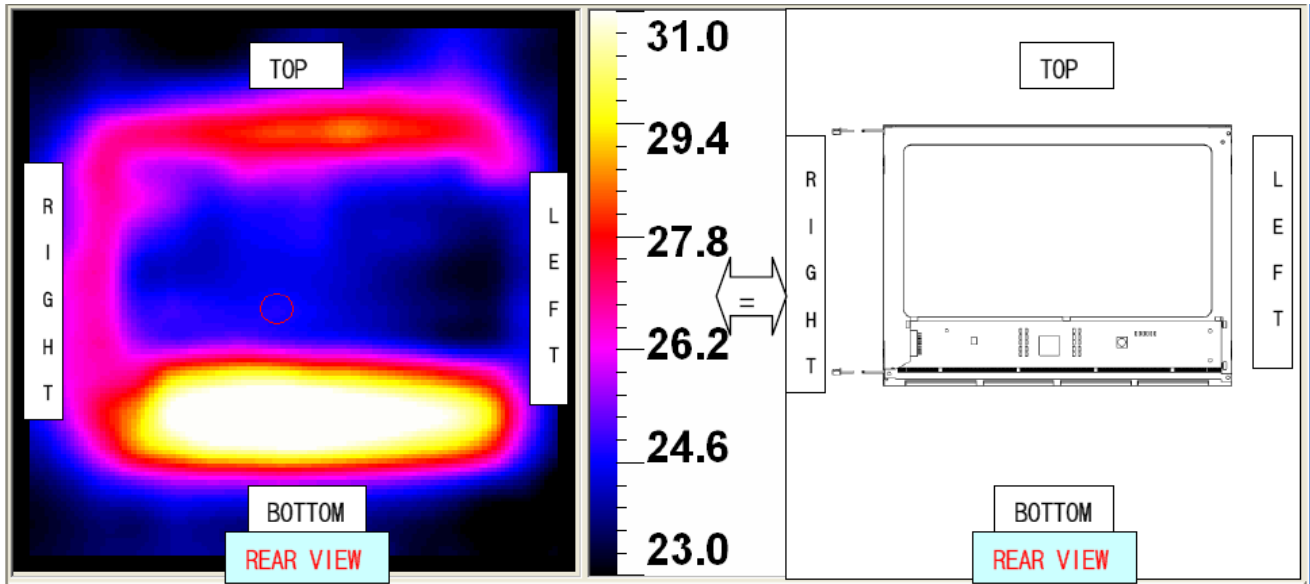

Figure 1. Thermal Map Showing the Heat Imaging of the LVM104XSB-02B-L01 (REAR VIEW)
(5) When fixed patterns are displayed for a long time, remnant image is likely to occur.
(6) The thermal map showing the heat imaging of the module (LVM104XSB-02B-L01) is shown in figure 1. Please reference the thermal map for optimum thermal design to maximize the MTBF of LED life.